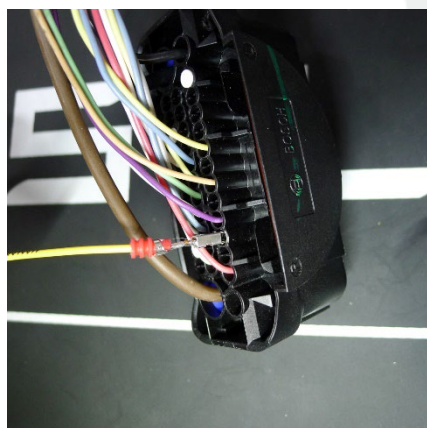
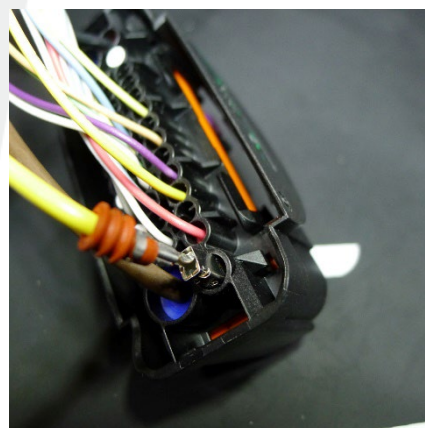

Figure 28
Figure 29
26. Insert the smaller terminal of the jumper into receptacle 28 (Figure 28) and the larger terminal of the jumper into receptacle 25 (Figure 29).